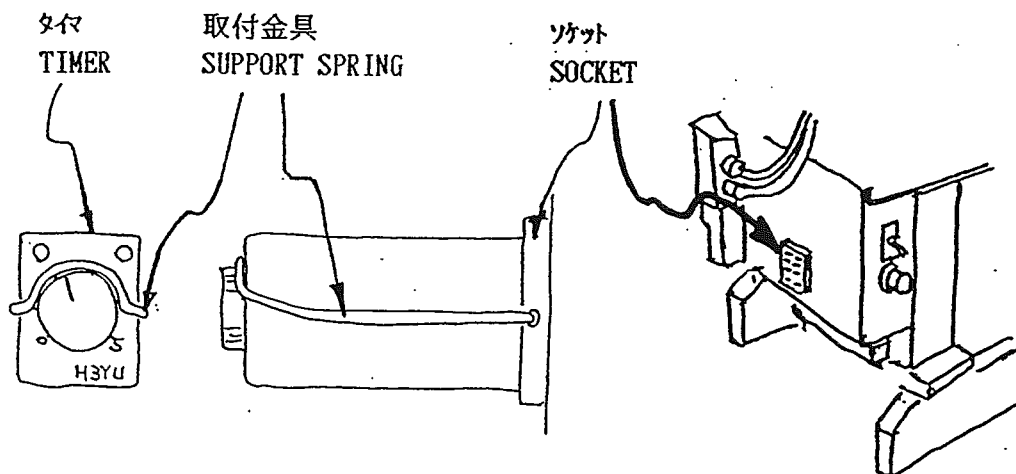

FIG.12
- Set the support spring as FIG.12.